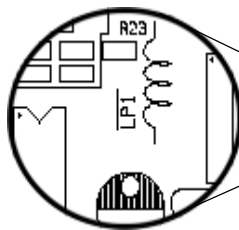

Fig. 27: N.O./N.C. starter disable
2. On the back of the printed circuit board, cut the "LPT" loop as shown on Fig. 27.